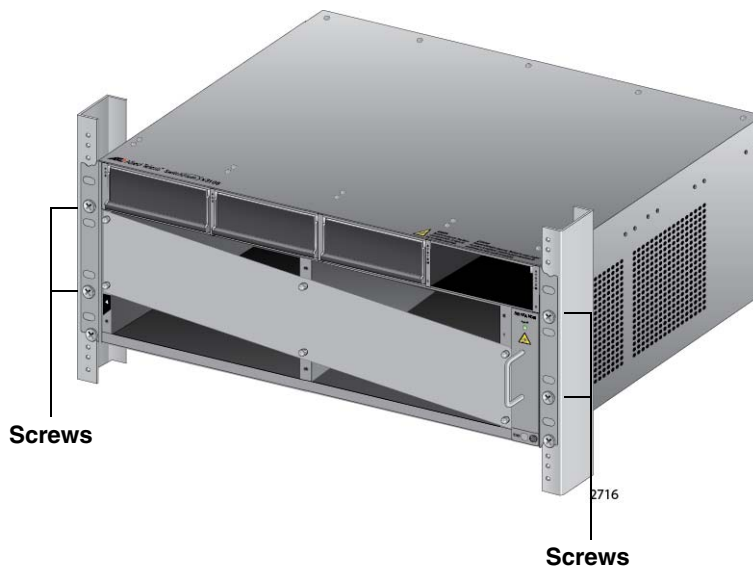

Figure 42. Installing the Rack Mount Screws
4. Install four rack mount screws (not provided) to secure the chassis to the equipment rack, as shown in Figure 42.